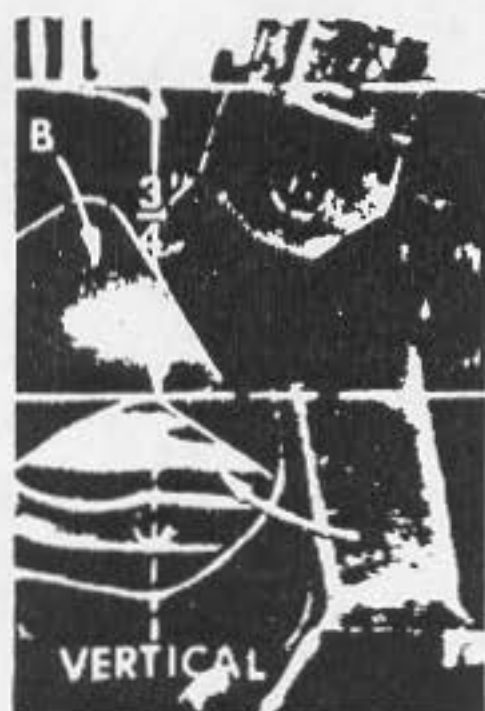
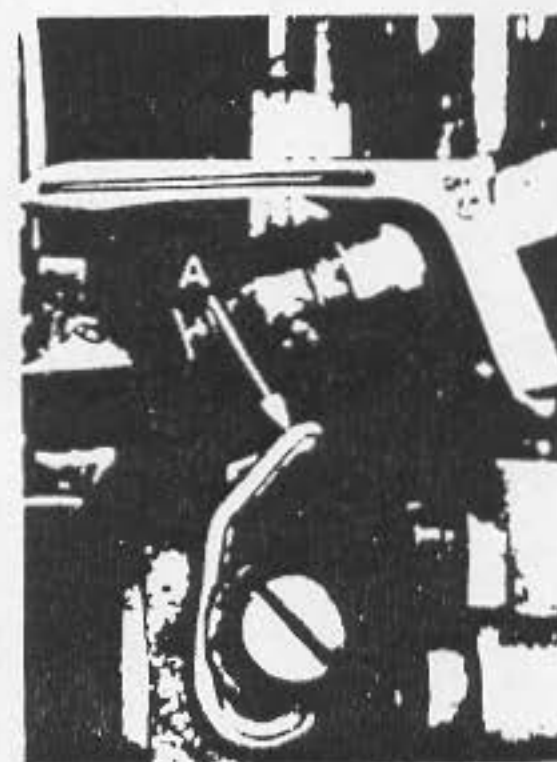

Fig. 18
Fig. 19
Set 401 looper thread take-up cam eyelet so rear eyelet hole is directly under looper thread cast-off corner of cam (A, Fig. 18) when cam is at its most rearward position. Front and rear eyelet holes to be set horizontally. Looper thread eyelet (A, Fig. 19) to be set vertically and approximately centered in its slot.
Pull several feet of thread through the looper to provide slack while checking the tension. Turn handwheel in operating direction until the needle is totally raised. Pulling the thread straight towards the operator, through the looper thread eyelet (A, Fig. 19), adjust tension with the knurled nut (H, Fig. 2) to approximately 2 ounces.
When the 401 looper thread cam is correctly positioned on the needle arm shaft, the cast-off corner (A, Fig. 18) will be $\frac{3}{4}$ inch vertically below the top surface of the bed, when the needle arm is at its highest position (Fig. 18). This adjustment is made at the factory, but if checked and moved, it must be observed that the cam functions as a thrust collar for the needle arm shaft and correct thrust must be maintained. If this setting is correct, the casting-off may be timed. To change the time of casting-off, move the cast-off blade (B) up or down, rotating it about its holding screw. Set cast-off blade to cast-off looper thread when the needle point is between the bottom and top of the looper.
Observe the action of the looper thread take-up at the bottom of the needle stroke. The looper thread is lying across the cam lobes, slack from the previous casting-off. As the needle arm rises to the top, the looper thread will begin to tighten across the cam until cast-off will again occur and the looper thread will lie in the crotch of the cast-off blade (B, Fig. 18).